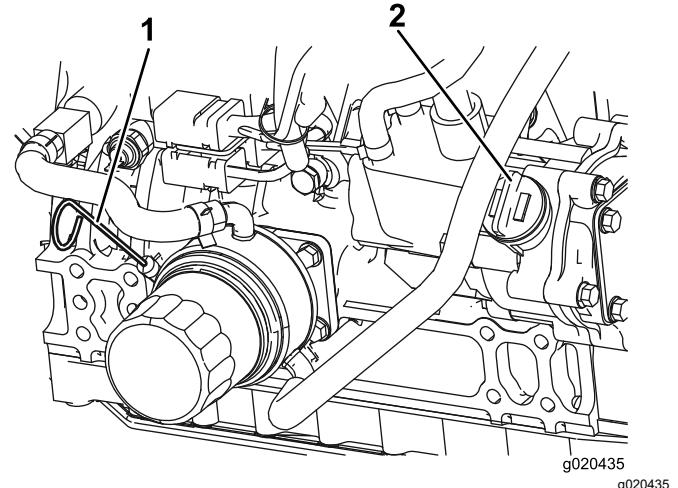

Figure 73
3. Remove the dipstick, wipe it clean, install the dipstick into the tube, and pull it out again. The oil level should be in the safe range (Figure 73).
4. If the oil is below the safe range, remove the fill cap (Figure 73) and add oil until the level reaches the Full mark.